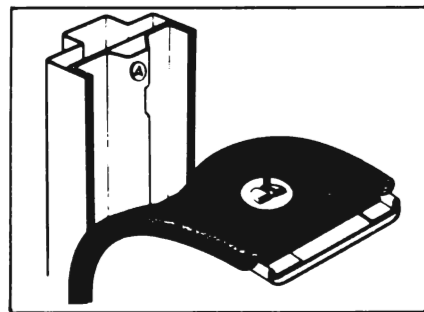

Figure 13-44—Attachment of Center Pillar Trim
3. With a suitable flat bladed tool, pry loose the center pillar trim from its ratchet nail attachment on the center pillar as indicated in figure 13-44.